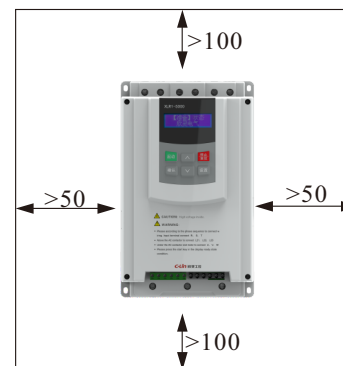
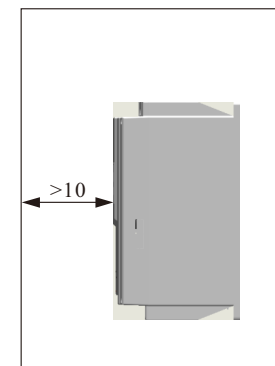

Figure 1
Figure 2
1. Installation orientation and spacing: To ensure good ventilation and heat dissipation, the soft starter must be installed vertically. Sufficient clearance must be maintained around the unit for heat dissipation (see Figure 1). Figure 2 specifies the minimum allowable distances. (All dimensions in the figures are in millimeters.)